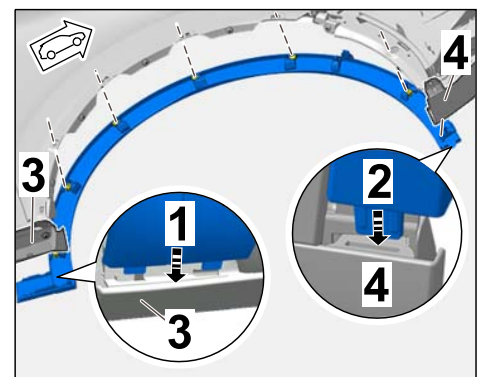

Figure 5
2.1 Guide tabs/pins (at the ends of the wheel cover) into the side skirts and front apron (⇒ *Figure 5*).